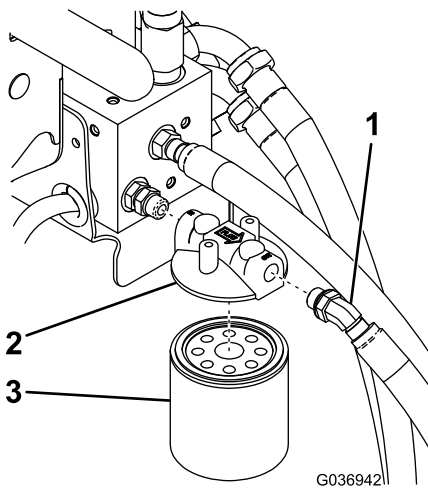

Figure 11
3. Install the filter head, filter, and 45° hose fitting to the fitting in the T port on the manifold as shown in Figure 11.